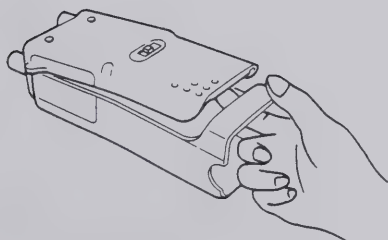

Fig. 2
- 3 Put your finger into the battery holder, and release the claw of the rear case. (Fig. 2)